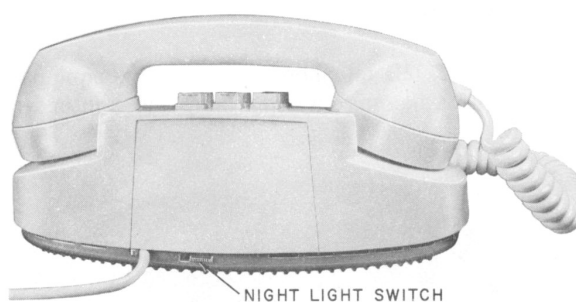

Fig. 3—2700-Type Telephone Set, Rear—Night Light Switch Location
- **Night light switch:** allows dial lamp to be operated at reduced intensity (dial lamp illuminates dial at full intensity with handset off-hook) (Fig. 3).